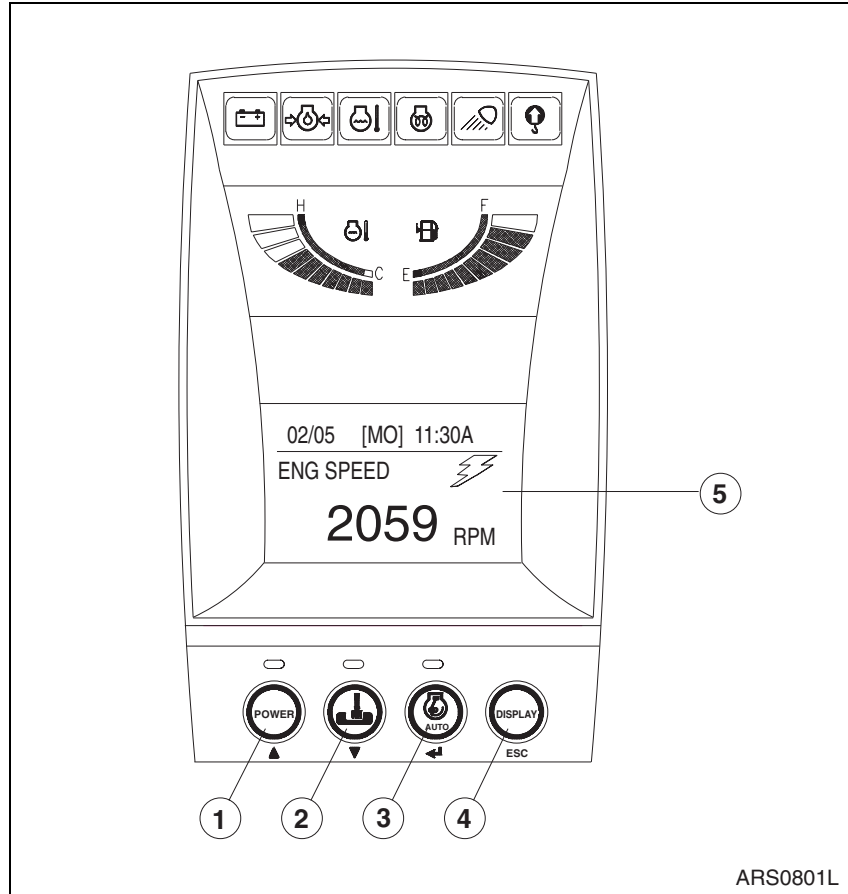

Figure 13
1. Up Arrow Button (▲, 1 on Figure 13): Move the cursor to up, left and previous screen.
2. Down Arrow Button (▼, 2 on Figure 13): Move the cursor to down, right and next screen.
3. Enter Button (↵, 3 on Figure 13): Move the menu to selected mode. When setting the menu, this button is used to function as the select button.
4. Escape Button (ESC, 4 on Figure 13): Move a screen to previous menu or main menu.